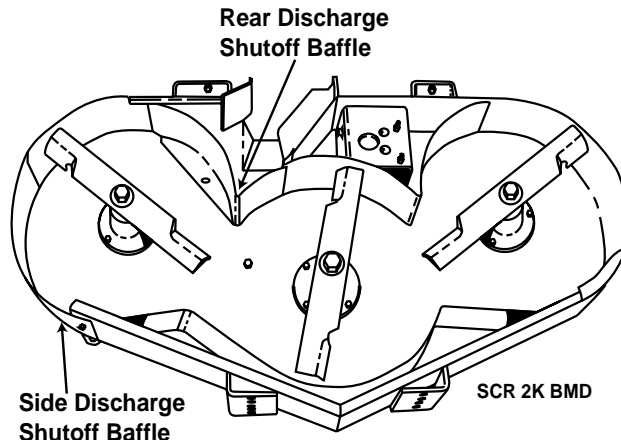

Figure 4-13 Baffles for Mulching
1. Place the proper baffles in the cutter deck for mulching operation (Figure 4-13).